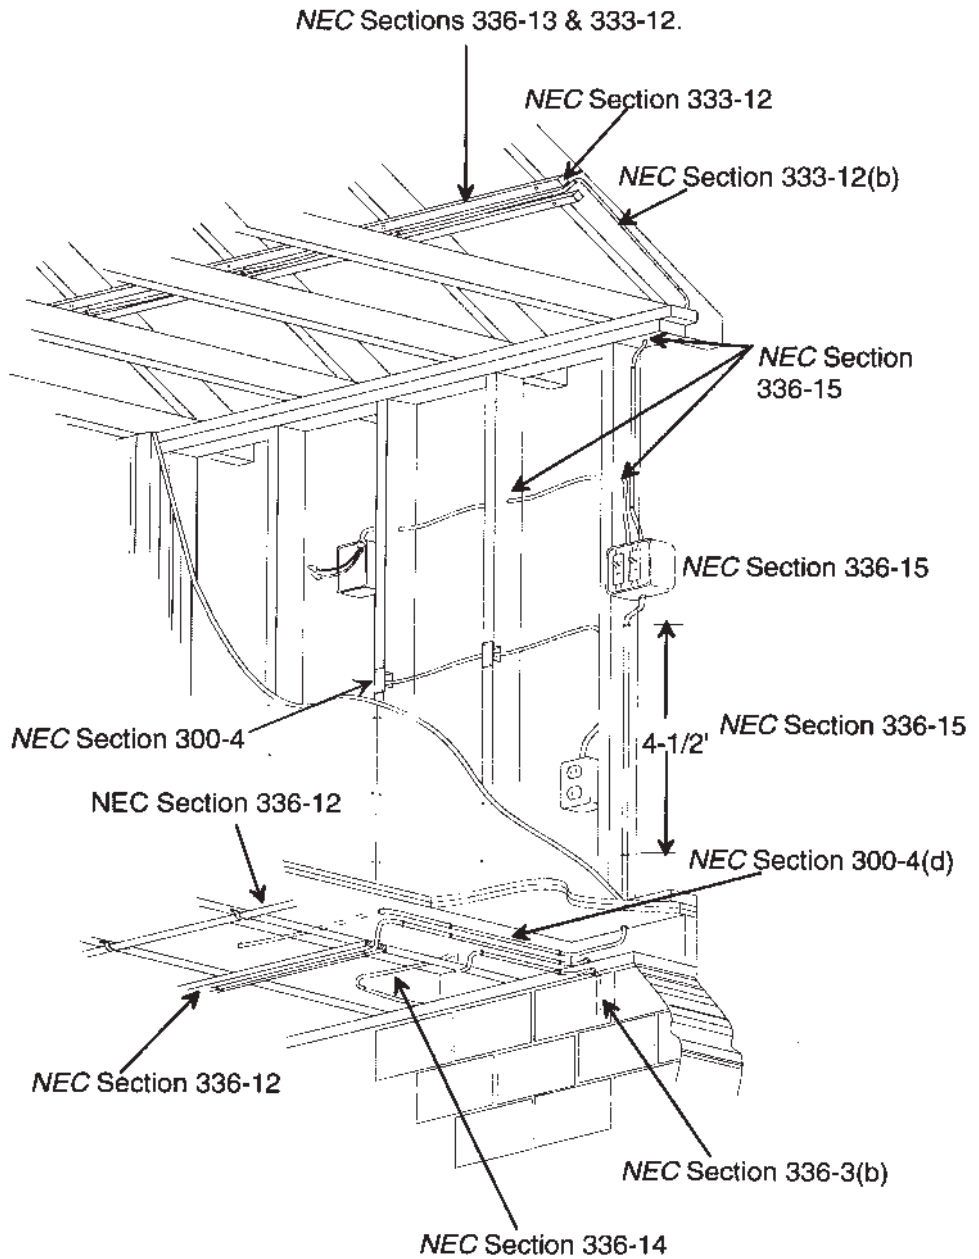

Figure 6.15 NEC installation requirements for Type NM cable.
*Nonmetallic-Sheathed Cable (Type NM):* This cable is manufactured in two- or three-wire assemblies, and with varying sizes of conductors. In both two- and three-wire cables, conductors are color-coded: open conductor is black while the other is white in two-wire cable; in three-wire cable, the additional conductor is red. Both types will also have a grounding conductor that is usually bare, but is sometimes covered with a green plastic insulation, depending upon the manufacturer. The jacket or covering consists of rubber, plastic, or fiber. Most will also list the manufacturer's name or trademark, the wire size, and the number of conductors on the jacket. For example, "NM 12-2 W/GRD" indicates that the jacket contains two #12 AWG conductors along with a grounding wire; "NM 12-3 W/GRD" indicates three conductors plus a grounding wire. This type of cable can be concealed in the framework of buildings, or in some instances, can be run exposed on the building surfaces. It may not be used in any building exceeding three floors above grade; as a service-entrance cable; in commercial garages having hazardous locations; in theaters and similar locations; places of assembly; in motion picture studios; in storage battery rooms; in hoistways; embedded in poured concrete, or aggregate; or in any hazardous location, except as otherwise permitted by the NEC. Nonmetallic sheathed cable is frequently referred to as Romex on the job (Fig. 6.15).